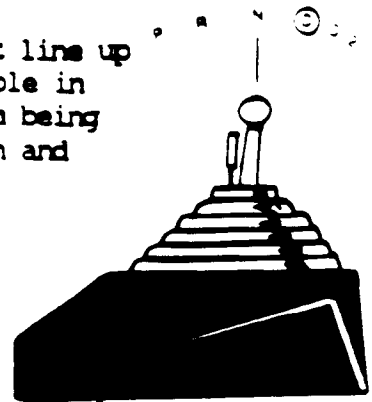

FIGURE 5.
Pre-wire Hurst neutral/park start switch (front switch located on shifter assembly) using two (2) female crimp connectors (Item #29) and two (2) suitable lengths of 16 gauge insulated automotive grade wire (not supplied). Strip 1/4" of insulation off each end of wire and firmly crimp female connector onto one end of each wire. Push female connectors onto switch terminals. Route wiring away from shifter assembly so it will not interfere with internal moving parts. (Refer to Figure 5).
Locate wire connected to starter solenoid terminal marked "S" and trace to original neutral start switch. Locate wire connected to "Solenoid" terminal of ignition switch and also trace to original neutral start switch. Disconnect both wires leading to switch and connect to Hurst neutral/park start switch wire leads. Use correct size insulated electrical butt connectors to properly connect the wires together. (Refer to Figure 5).
Locate wire lead connected to back-up lights and trace to the original factory back-up light switch. Disconnect both wires leading to the back-up light switch and connect to Hurst back-up light switch wire leads. Use correct size insulated electrical butt connectors to properly connect the wire together. Note: One wire lead from the Hurst back-up light switch must have 12 volt power when the ignition key is in the "On" position. (Refer to Figure 5).
Note: Female wire connector (Item #29) is not shown. Refer to Figure 5.